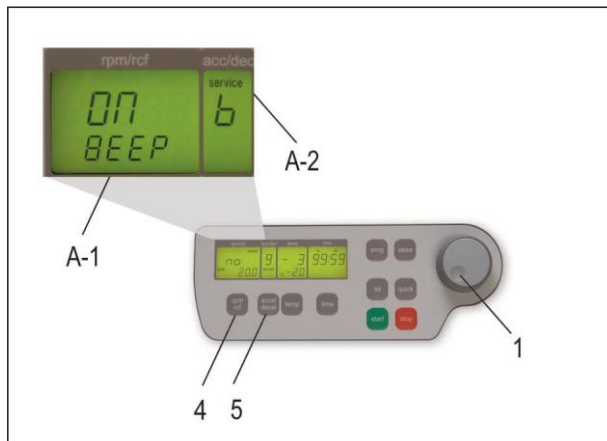

Figure 9
Proceed as illustrated, under point 1.8.1, to enter this program mode, press the key, "accel/decel" (5). In the display; "accel/decel" (A-2) flashes the word, "service". Select the letter, "b" with the adjustable knob (1). As a result, appearing in the display, "rpm/rcf" (A-1), the word "ON/BEEP". By pressing the key, "rpm/rcf" (4), the keyboard sound (On) or (Off) can be turned on, with the adjustable knob (1), (see Figure 9).